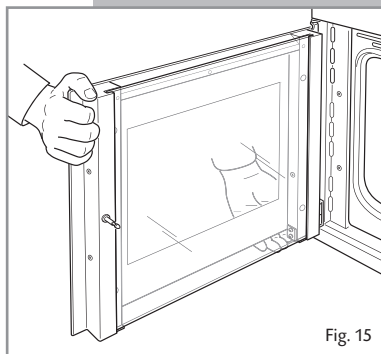
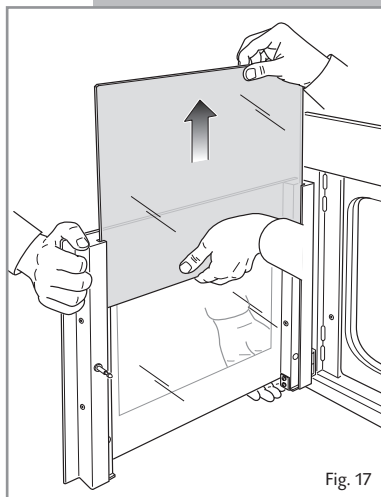

Fig. 15
Fig. 17
When removing and replacing the inner glass, the door should be held still by one person (fig. 15). A second person should gently remove the glass (fig. 17).
- Gently pull out the inner pane of glass (Fig. 17.). Forcible removal of the door glass may lead to damage of the door hinges.